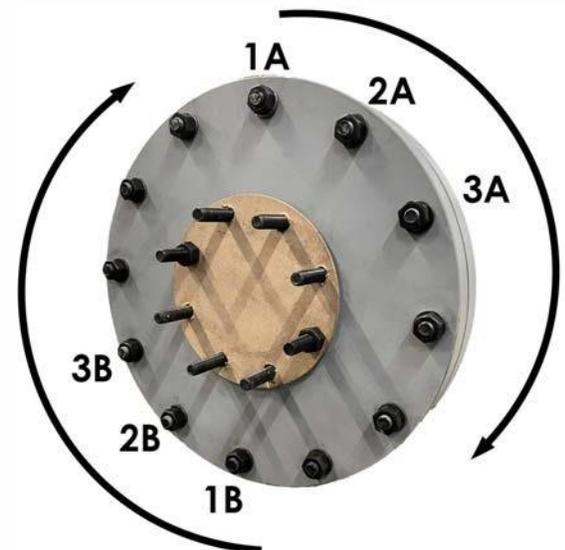

Figure 4-2. Reverse Tandem
11. Reinstall the clamp plates using the reverse tandem bolt tightening sequence shown in Figure 4-2.
7. When the proper orientation is obtained, tighten the shell side bolting to the stated spring height or torque value as shown on the assembly drawing using the reverse tandem pattern shown in Figure 4-2.
15. Install the clamp plates by tightening the tube side bolting to the torque value or spring height specified on your assembly drawing. It is important that all bolted joints be tightened uniformly using the reverse tandem pattern as previously illustrated in Figure 4-2.